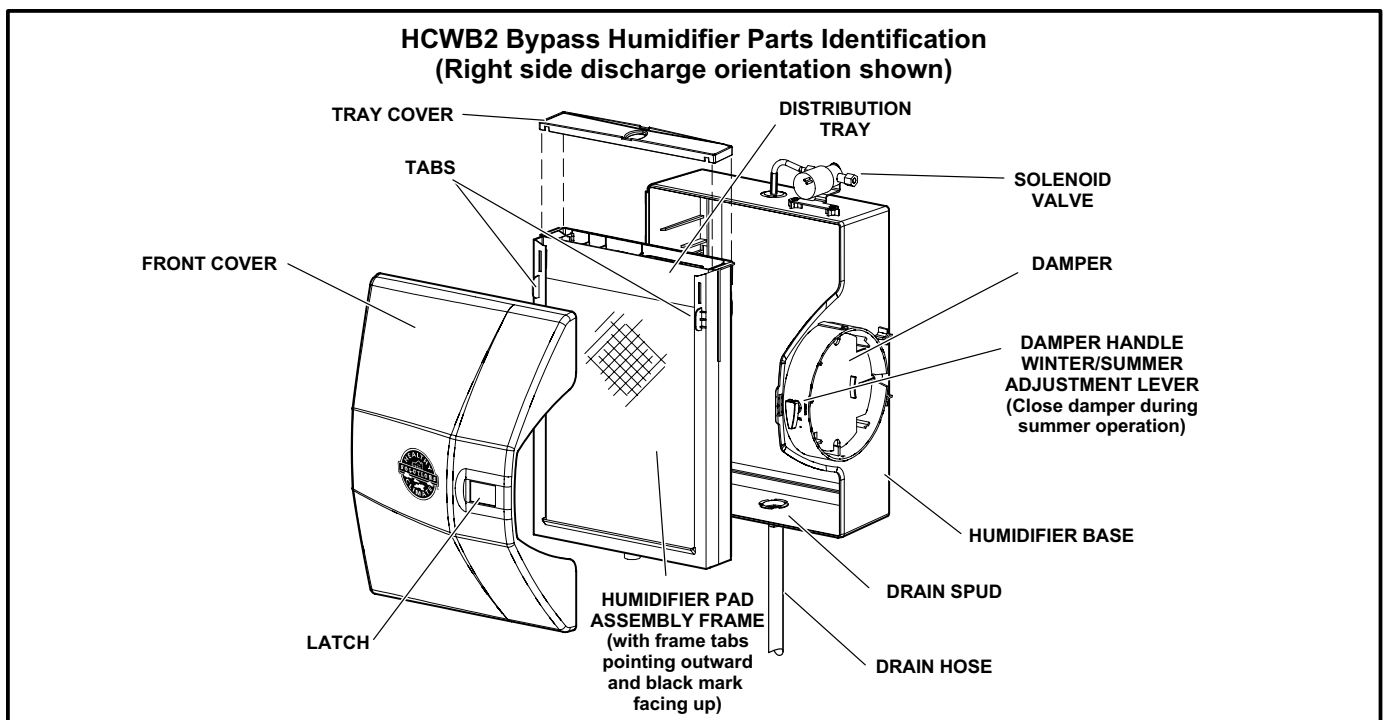

FIGURE 5
- - HCWB2 bypass models (figure 5) -- Switch the damper handle to one of the SUMMER settings to close the damper.
Refer to figure 5 for parts identification when reviewing the following procedure. Bold text indicates components that are identified in the illustration.